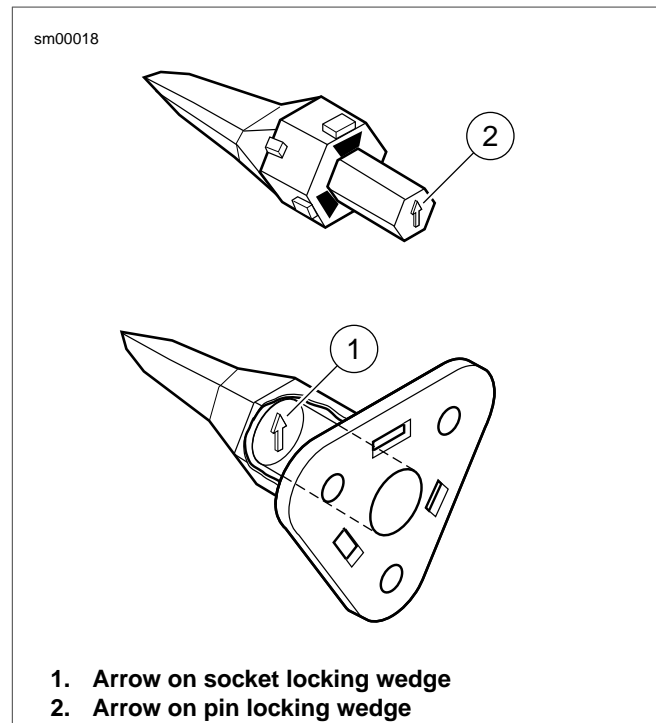

Figure A-15. Deutsch Connector: 3-Place Locking Wedges
- See Figure A-15. While rectangular wedges do not require a special orientation, the conical secondary locking wedge of the 3-place connector must be installed with the arrow (1) pointing toward the external latch.
- See Figure A-15. While rectangular wedges do not require a special orientation, the conical secondary locking wedge of the 3-place connector must be installed with the arrow (2) pointing toward the external latch.